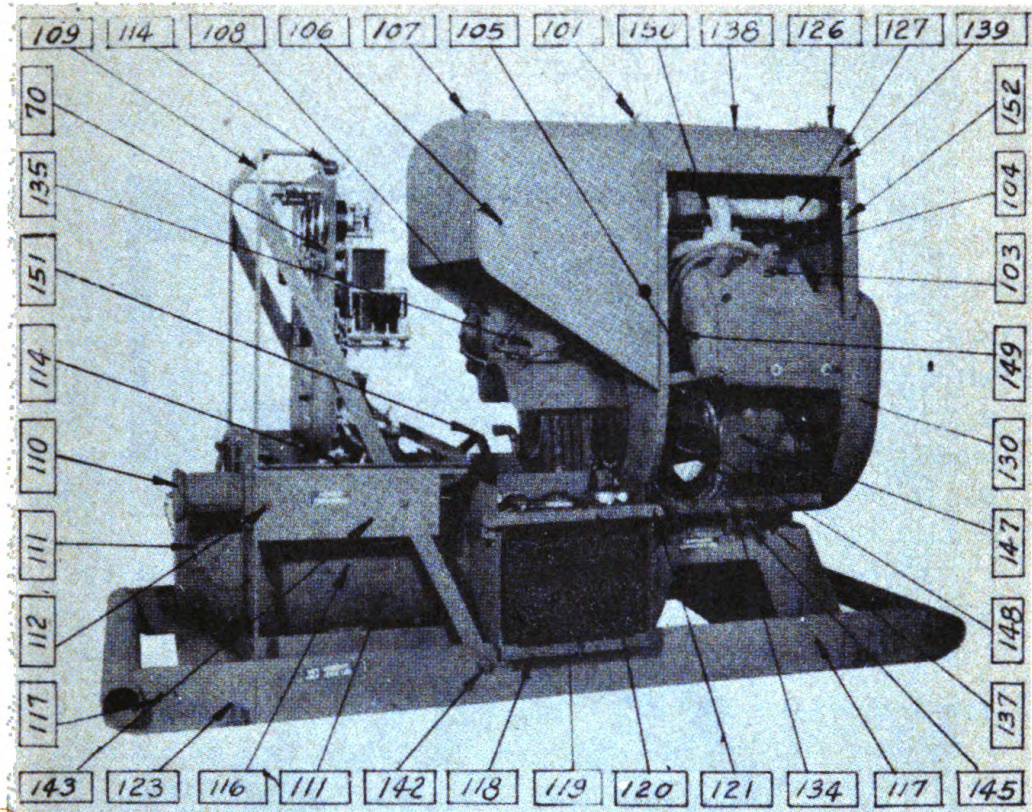
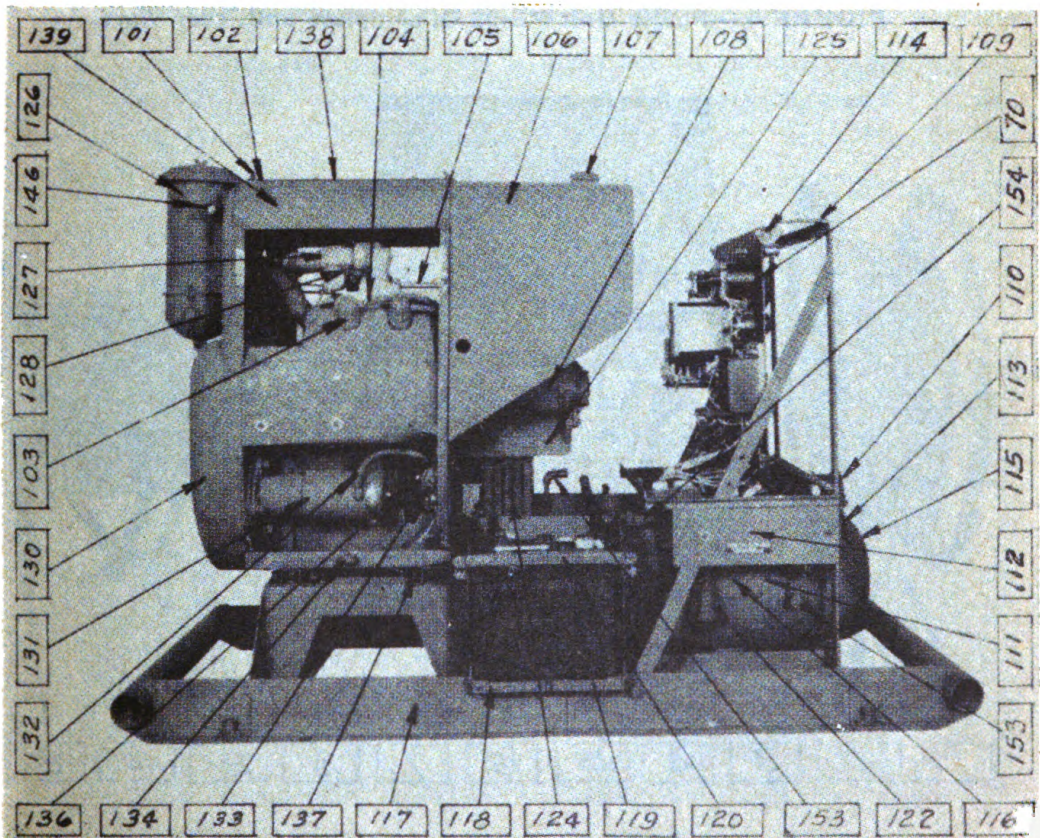
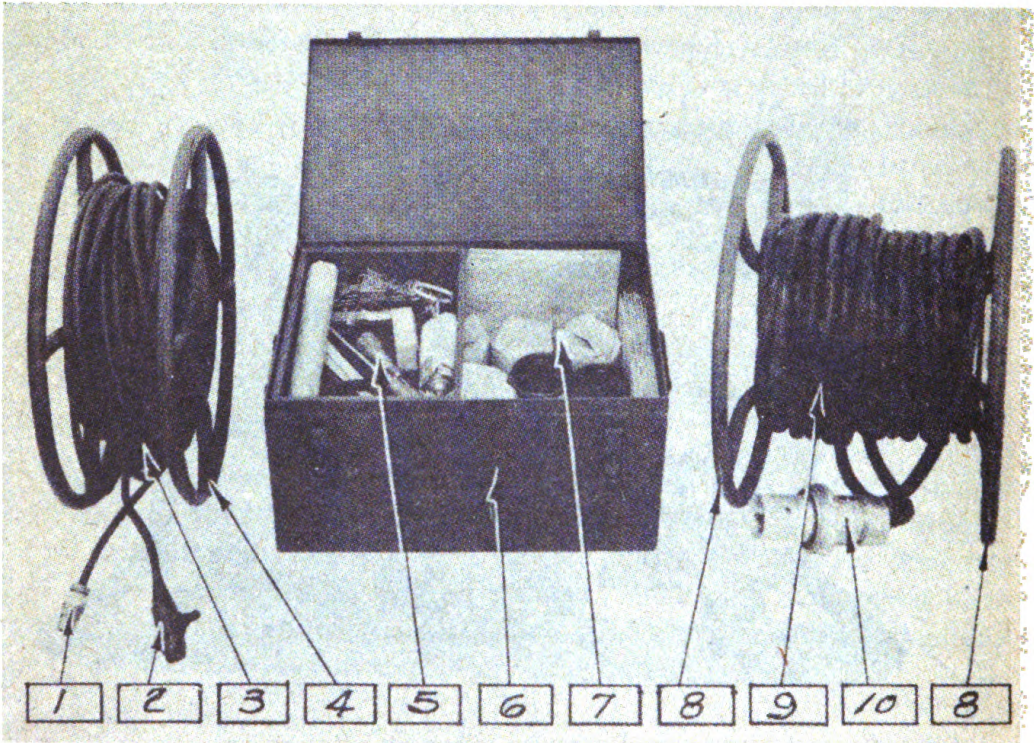
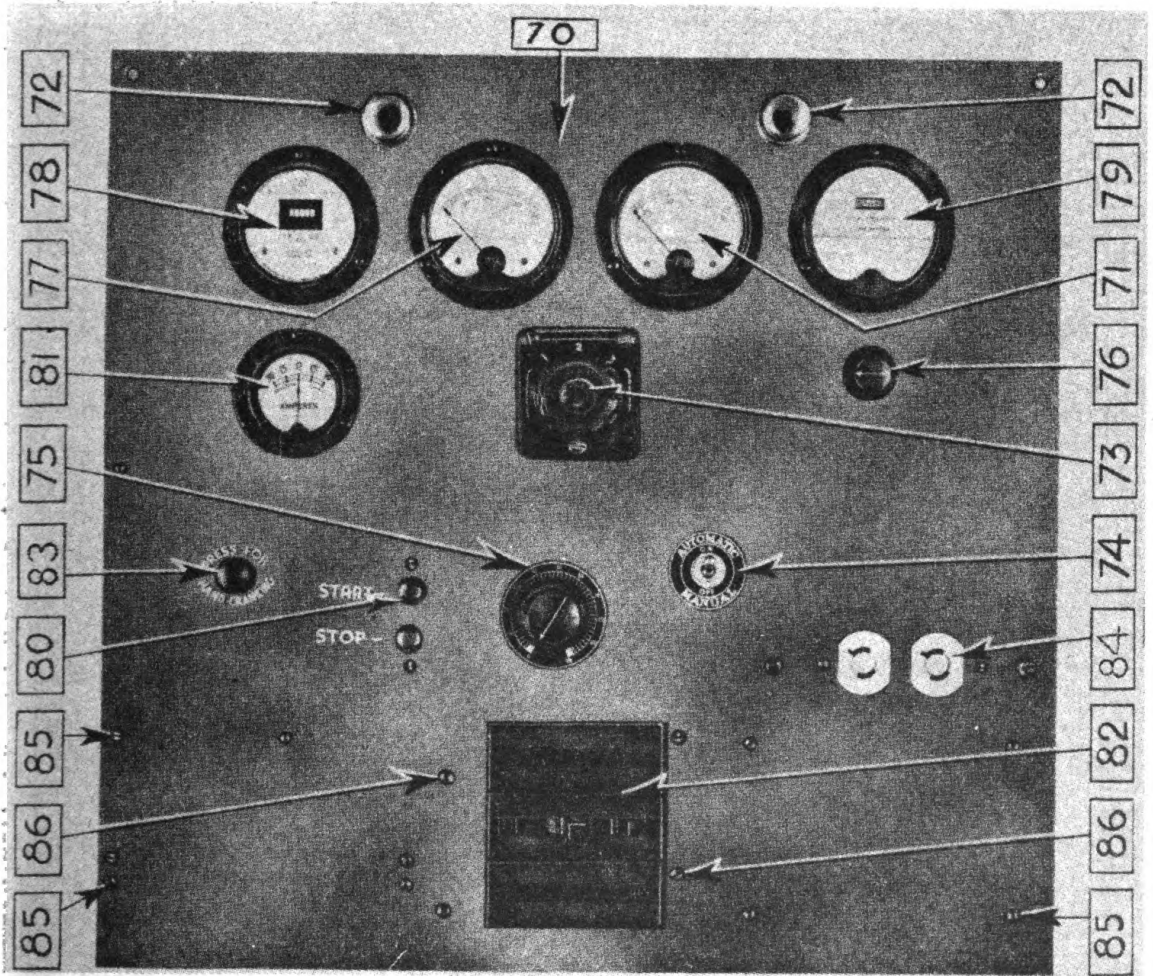

FIGURE 2.—Power Unit PE-99-G, right side view.
FIGURE 3.—Power Unit PE-99-G, left side view.
FIGURE 5.—Cable reels, tool box.
FIGURE 7.—Instrument panel, front view.
j. **Panel Board.** (Figures 7 and 8)
- (1) The panel board mounted inside the control cabinet is for the purpose of concentrating at one point all of the controls and instruments used in connection with the operation of this unit. All such functions as starting, stopping, applying load, etc., originate at this control panel.
- (2) The instruments and controls mounted on this panel, as indicated on Figure 7, and their functions are as follows:
- (a) Voltmeter (77) is for measuring the electrical pressure being developed by the A.C. Generator. This is normally 120 volts.
- (b) The Frequency Meter (78) is for measuring the frequency in cycles of the A.C. Generator. This is normally 60 cycles.
- (c) The Elapsed Time Meter (79) indicates the total hours the unit has been in actual operation.
- (d) Panel Lights (72) are for lighting the panel in darkness.
- (e) Voltmeter Selector Switch (73) is for transferring the reading of the Voltmeter (77) from one phase to another of the A.C. Generator.
- (f) Battery Charging Ammeter (81) measures the charging current being supplied by the battery generator.
- (g) Start-Stop Switch (80) is for starting and stopping the unit.
- (h) Exciter Field Rheostat (75) is for manually controlling the terminal voltage of the A.C. Generator. Turning to right increases voltage; turning to left decreases voltage.
- (i) Voltage Regulator Switch (74) is for placing the automatic voltage regulator in operation. When this switch is on, the voltage is automatically controlled; when this switch is off, the voltage is controlled manually by the Field Rheostat (75).
- (j) Main Circuit Breaker (82) is for connecting and disconnecting the generator to and from the main output receptacle or terminal block.
- (k) Voltage Regulator Control Rheostat (76) is for adjusting the automatic voltage regulator to maintain the desired voltage.
- (l) Manual Reset Control (83) is used for tripping the stopping relay in case it is desired to crank the unit manually.
- (m) Duplex Convenience Receptacle (84) is for convenience in taking comparatively light loads from the unit without using the main power cable.
- (n) A.C. Ammeter (71) is for the purpose of measuring the current flow in each phase of the A.C. Generator. Full load on this unit is 36 amperes, and it should not be operated under any circumstances when these meters read in excess of this value.
- (1) This structure is of welded steel construction and may be removed in its entirety from the unit proper by disconnecting the wires from the terminal blocks and removing the four bolts by which it is attached to the base assembly.
- (2) The following parts are attached to this structure and their descriptions and functions are as follows:
- (a) Main Power Receptacle (No. 110, Fig. 2) is for the purpose of delivering the full power developed by this unit. The Plug (No. 10, Fig. 5) which is attached to the end of the main power cable fits this receptacle and should be used at all times, except when using a cable not fitted with this type plug. Then it is permissible to take full power from the unit from the output terminal studs (No. 143, Fig. 2) located on the right-hand under side of this structure.
- (b) Remote Control Receptacle (No. 113, Fig. 3) is for connecting the remote control power cable (No. 3, Fig. 5) to the unit. This cable has a plug attached which fits this receptacle. This connection should always be used, except in cases where a remote power cable is used not incorporating the proper plug. Under these conditions, the cable may be attached directly to the remote control terminal block located on the left lower side of the main control cabinet structure.
- (4) After permitting the electrolyte solution to cool all of the battery cells should be equalized by the addition or removal of electrolyte. If the reading of a cell is found to be high, remove electrolyte and add distilled water to equalize the solution with that in the other cells. If the reading of any cell is found to be low, remove some of the solution and add 1300 electrolyte until that cell has been equalized with the other cells of the battery. Place the battery back on charge for a few hours after equalizing the cells to thoroughly mix the solution. After allowing the battery to cool, it may be placed in service.
- l. Should it become desirable to control the voltage manually, the automatic voltage regulator can be rendered inoperative by switching the voltage regulator switch to OFF. This will make it possible to entirely control the voltage by means of the exciter field rheostat Fig. 7 (75). Turning the rheostat to the right will increase the voltage while turning it to the left will decrease the voltage.
- b. As quickly as the unit indicates that it is functioning properly, the load can be applied either by plugging into the side convenience receptacle, or by connecting directly to the a.c. output terminals Fig. 2, (143) on the right side of the unit and moving the circuit breaker handle to ON.